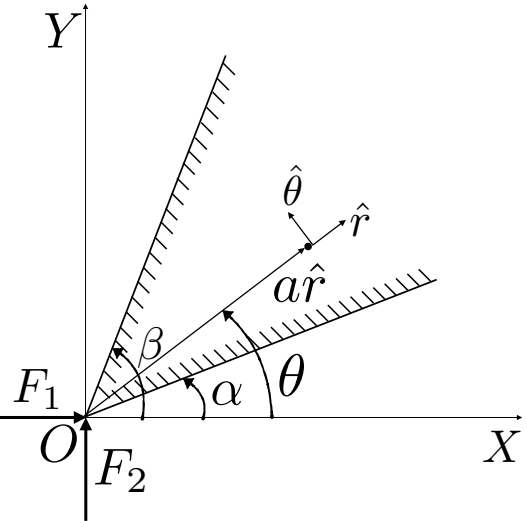

Figure 5: A Linear Elastic Wedge
7. This question tests your knowledge of the Flamant problem. Figure 5 shows a “linear elastic wedge” of “unit thickness” acted on by the concentrated loads  $F_1$  and  $F_2$ .